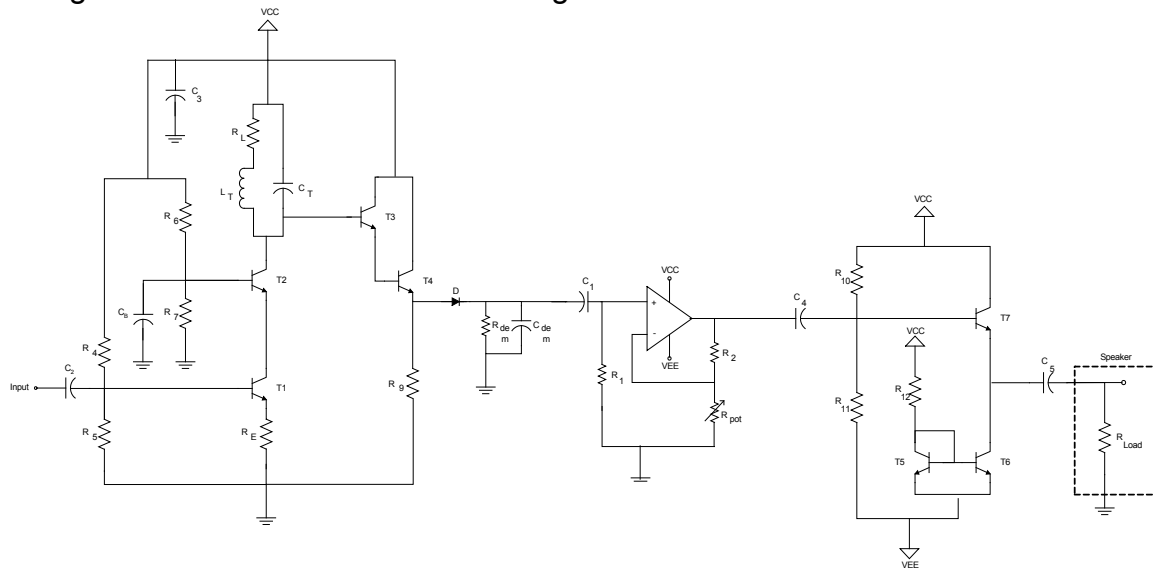

Figure 7- AM Receiver schematic
The AM receiver is built by connecting the different components together in a straightforward manner as shown in Figure 7.
- 5.2.1 Connect the circuits including the speaker as shown in Figure 7. Input an AM modulated signal corresponding to your carrier frequency from the generator. Listen to the output and confirm that you can hear different musical notes depending on the baseband signal's frequency. Table 1 below gives a reference of the different tones you should subject your system to. *Note that you can use the potentiometer for volume control and then you may have to use a resistor in series with the signal generator to reduce the input amplitude to levels which are comparable to antenna received radio signals (few mV).*